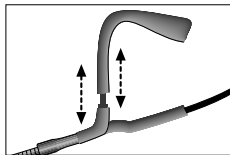
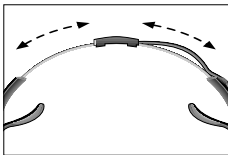

Fig. 6
Fig. 7
3. If the behind-the-neck headband does not fit snugly, readjust the temple pieces as shown in fig. 6. Slide the cable holder so as to slacken the cable a little (refer to fig. 7).